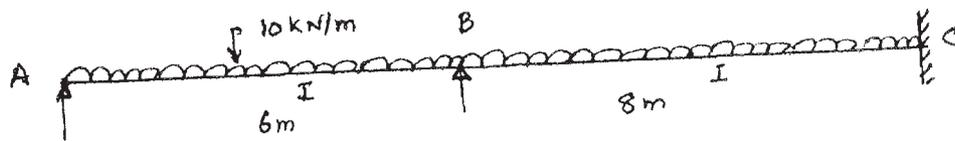

Fig. 8
15. (a) Analyse the continuous beam shown in Fig. 8 by stiffness method. Support 'B' sinks by 10 mm.